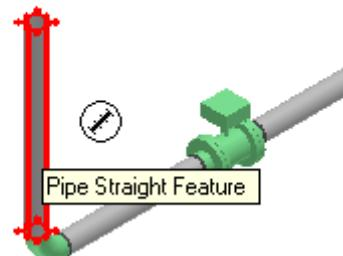

Figure 7. 55: Pipe Straight Feature
39. The **P&ID File Viewer** window appears. In the **P&ID File Viewer**, select the gate valve, as shown in Figure 7. 56.